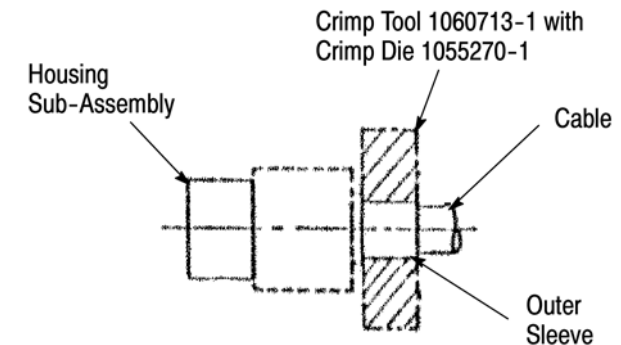

Figure 5
2.3. Crimping the Cable Sub-Assembly to the Housing Sub-Assembly (Figure 5)